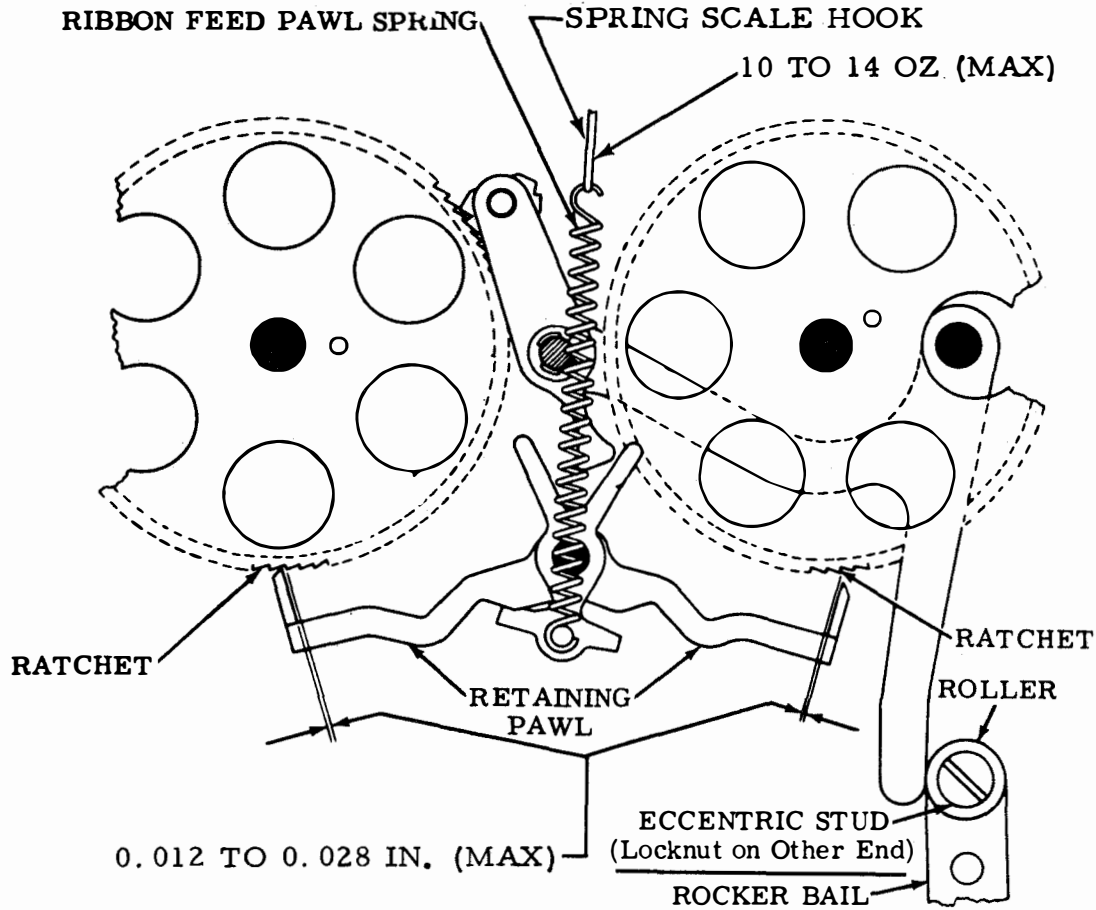

Figure 6-290. Ribbon-Feed Pawl Spring and Eccentric Stud
(a) Refer to figure 6-290.
1. Refer to figure 6-290.
1. Refer to figures 6-290 and 6-291.